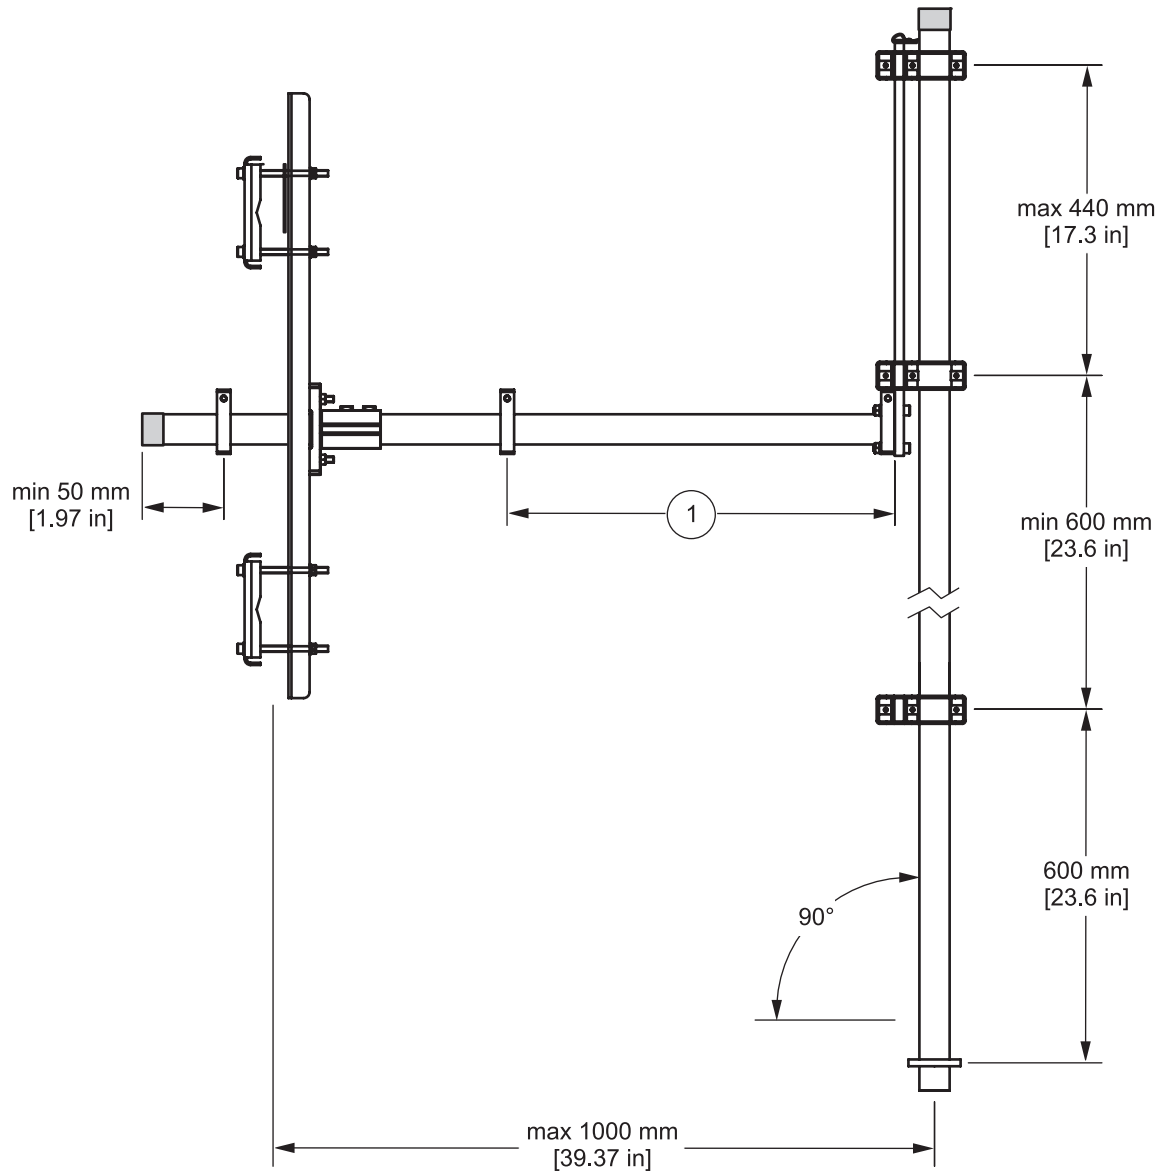

Figure 3 Installation dimensions
Figure 3 defines the position of the Filter Probe sc when the mounting pipe is in the service position (see Placing the Filter Probe sc in the service position on page 12).
- Set the supporting pipe axial offset using the distance from the clamp between the angles and the clamp in front of the base (see Figure 3 on page 3 and section Placing the Filter Probe sc in the service position on page 12).
- 9. Refer to the Filter Probe sc operating instructions to determine the installation position for the two top brackets and loosely fit the brackets to the mounting pipe. Refer to Figure 3 on page 3 for installation dimensions.
- 12. Adjust the tank bracket and tighten all screws. Refer to Figure 3 on page 3 for installation dimensions.